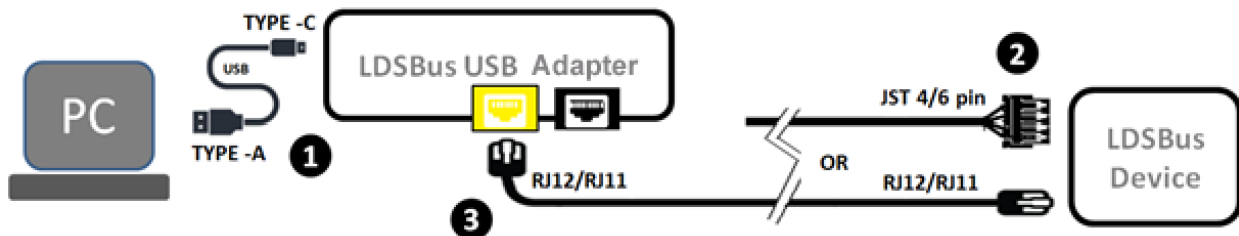

Figure 2 – LDSBus Device (Sensors / Actuators) Configuration
Figure 2 illustrates the connection of the LDSBus USB Adapter based on the applications.
3. Attach the other end of the cable to the LDSBus USB Adapter as shown in Figure 2.
| Figure 2 – LDSBus Device (Sensors / Actuators) Configuration | 7 |